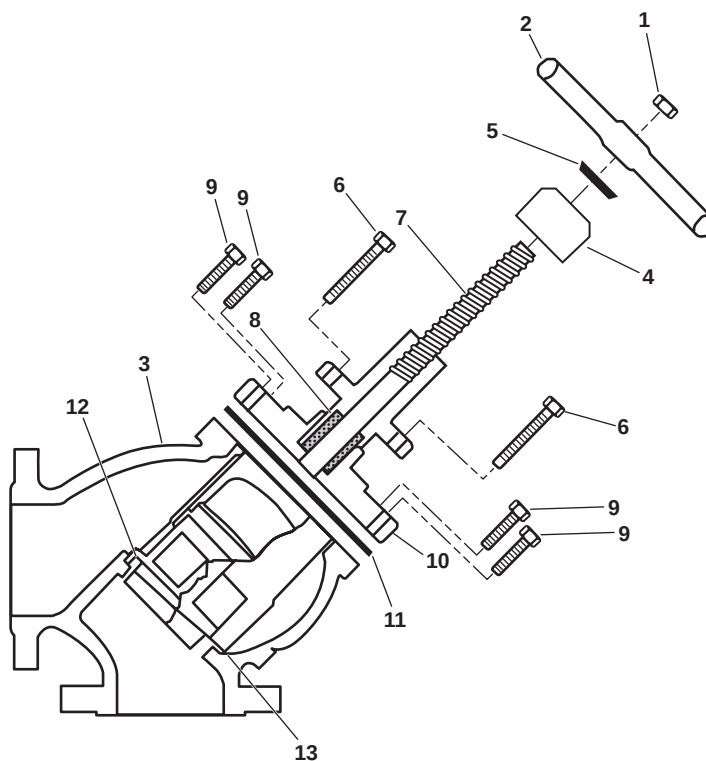

Figure 2. Flanged Stop Check Valve
1. Remove the nut (figure 2, item 1) and the handle (figure 2, item 2) from the valve body (figure 2, item 3).
2. Remove the retainer nut (figure 2, item 4) and the packing gland (figure 2, item 5) from the valve body (figure 2, item 3). Discard the packing gland.
3. Remove the bolts (figure 2, item 6), the stem (figure 2, item 7), and the stem packing (figure 2, item 8) from the valve body (figure 2, item 3). Discard the stem packing.
4. Remove the bolts (figure 2, item 9), and remove the access cover (figure 2, item 10), and the packing gland (figure 2, item 11) from the valve body (figure 2, item 3).
5. Remove the valve disk (figure 2, item 12) and the valve seat (figure 2, item 13) from the valve body (figure 2, item 3). Discard the valve disk and valve seat.
2. Clean the parts of the valve (figure 2, item 1) using clean wiping rags and water.
3. Install a new valve seat (figure 2, item 13) and a new valve disk (figure 2, item 12) in the valve body (figure 2, item 3).
4. Install a new packing gland (figure 2, item 11) on the access cover (figure 2, item 10) and secure the access cover to the valve body (figure 2, item 3) with the bolts (figure 2, item 9).
5. Install the stem (figure 2, item 7) and new stem packing (figure 2, item 8) on the valve body (figure 2, item 3) and secure it with the bolts (figure 2, item 6).
6. Install a new packing gland (figure 2, item 5) in the retainer nut (figure 2, item 4) and install the retainer nut on the valve body (figure 2, item 3).
7. Install the handle (figure 2, item 2) on the valve body (figure 2, item 3) and secure it with the nut (figure 2, item 1).